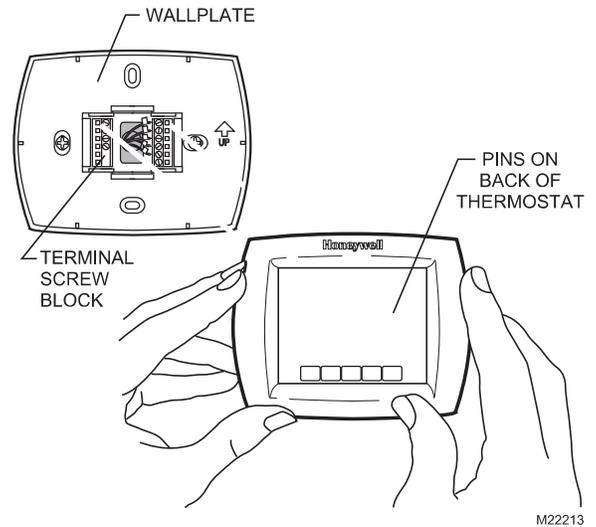

Fig. 24. Mount thermostat to wallplate.
1. Align the terminal screw blocks with the pins on the back of the thermostat. Push the thermostat straight onto the wallplate until it snaps into place. See Fig 24.